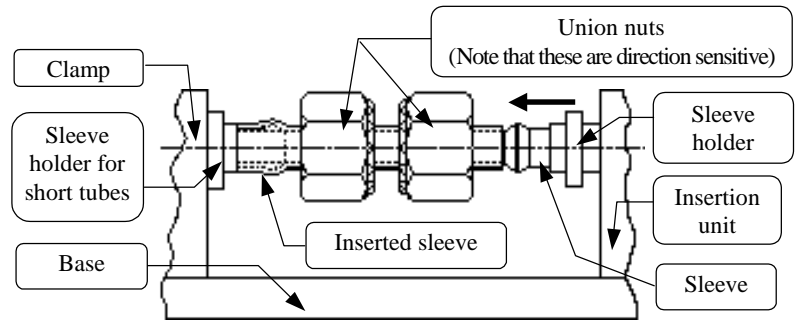

Figure 13. Parts arrangement
- Loosen the insertion unit locking handle, position the insertion unit so as to allow the arrangement shown in Figure 13, and then retighten the locking handle to secure the unit.